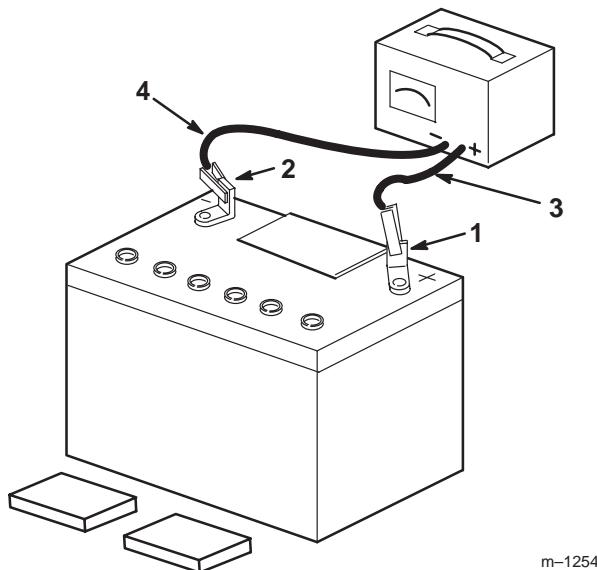

Figure 7
3. Leave the covers off and connect a 3 to 4 amp battery charger to the battery posts (Fig. 7). Charge the battery at a rate of 4 amperes or less for 4 hours (12 volts).